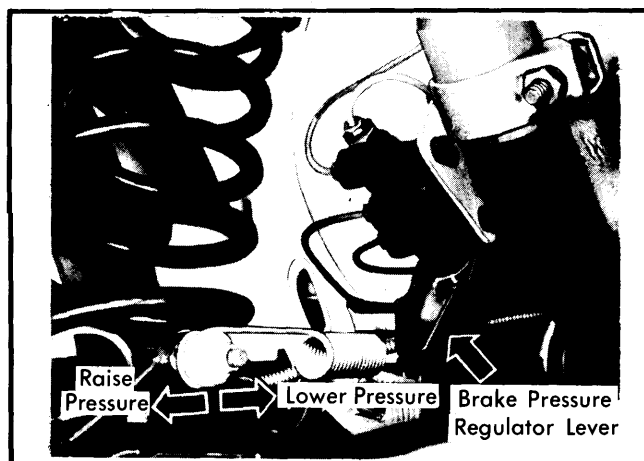

Fig. 1 Brake Pressure Regulator Adjustment
5) If pressures are consistently high at rear gauge, release spring tension and move bolt forward. If pressures are consistently low, release spring tension and move bolt rearward. If pressures can not be obtained after adjustment, replace regulator. See Fig. 1.